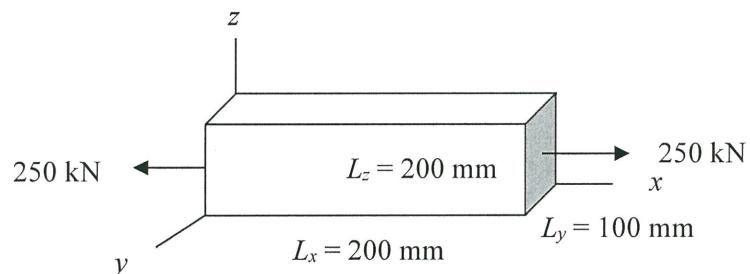

FIGURE Q2/ RAJAH S2
- (b) A block size 200 mm x 100 mm x 80 mm was shown in **Figure Q2**. This block loaded with force of 250 kN in the x -direction. If Poisson's ratio is 1/3 and the modulus of elasticity is 2×10^4 N/mm², determine the percent of change in volume of the block. (14 marks)